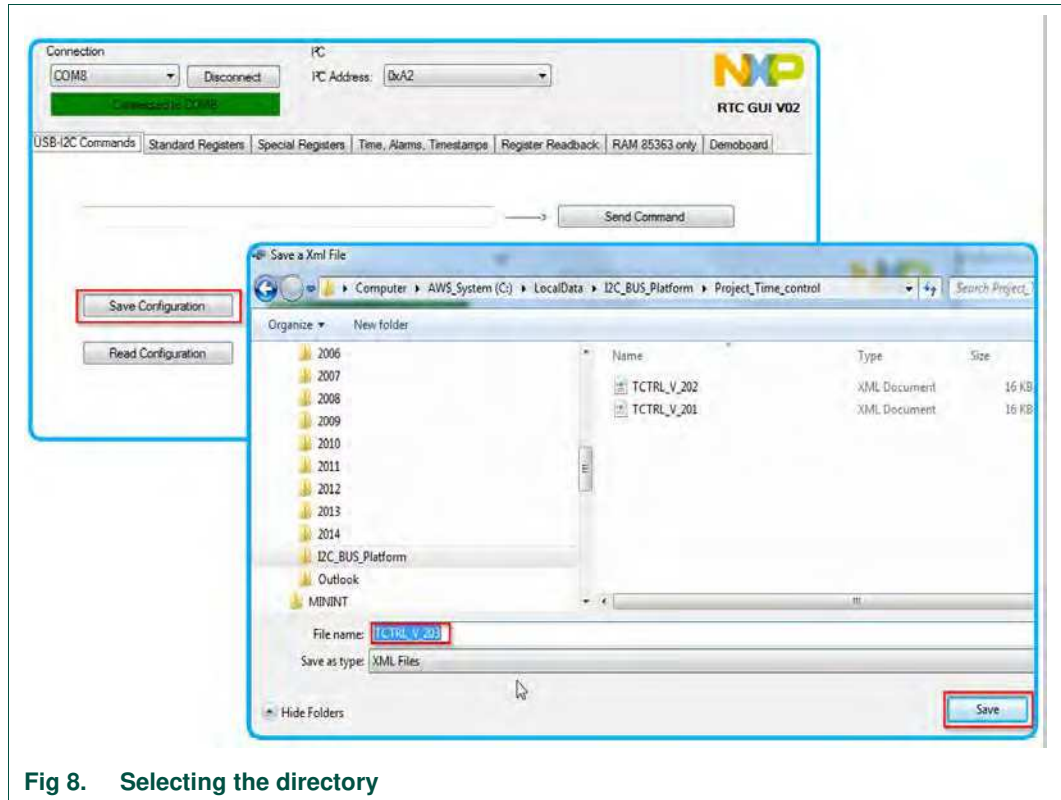

Fig 8. Selecting the directory
2. Save the desired configuration to a file as follows: *USB-I²C-Commands* tab, *Save Configuration*, select a directory and name (see Fig 8).